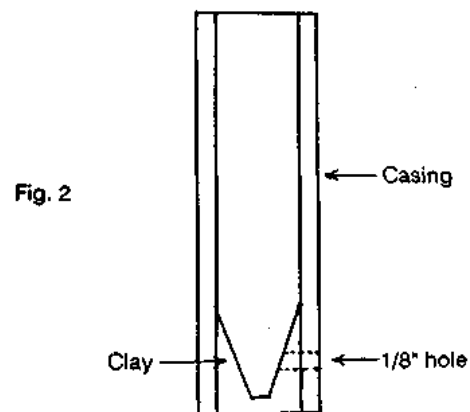

Fig. 2
3) I drill a 1/8" hole through the case wall and clay plug, about 1/4" to 3/8" from the end of the case and at a right angle to it, as shown in fig. 2. (I prefer to drill the hole before the comp. is rammed in, although this could be done afterward.)